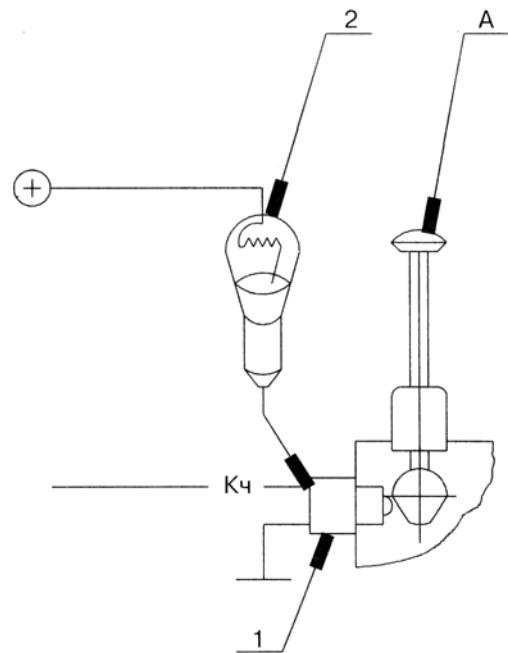

Fig. 7. Checking the operation of the starter interlock switch.
#### b) Check the operation of the starter interlock switch “SA11” with the gearbox reduction gear engaged (Fig. 7).
- connect one wire of the test lamp to the switch terminal with the wire K4 and stretch out another one to the “+” terminal of the regular storage battery (Fig. 7);